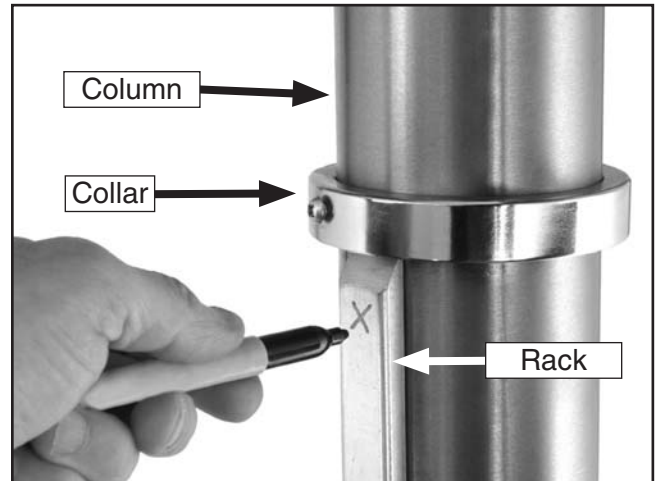

Figure 9. Marking the rack.
1. Mark the top of the rack, as shown in **Figure 9**, to reference which end is the top. Visually, the top of the rack is the end with a larger 'blind', or untoothed, section.